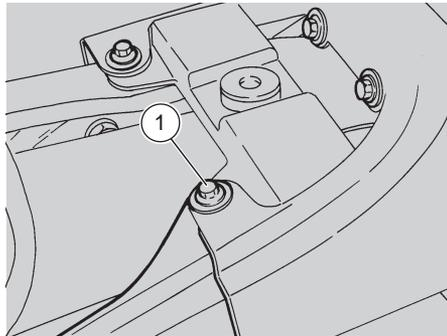

Fig. 45
- ◆ Unscrew and remove the screw (1-Fig. 45).